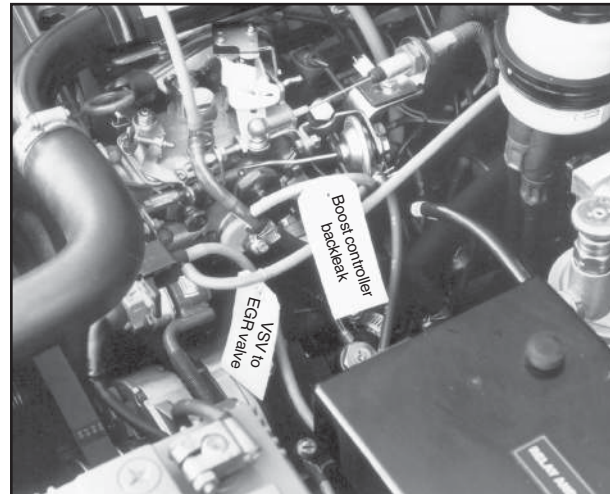

Fig. 4
- For correct reinstallation of EGR system hoses attach a tag describing the correct positions Fig. 4.